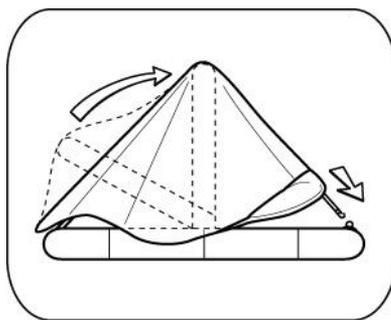

FIGURE 14
7. Lift canopy arch upright so that it is perpendicular to floor. Clip the remaining two plastic snap hooks to metal rings on raft (See Figure 14).